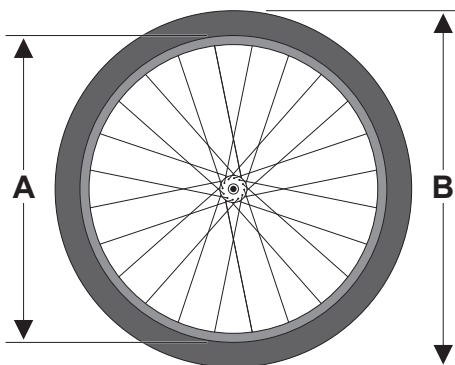
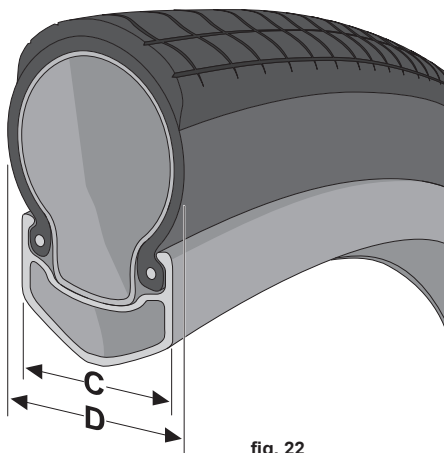

fig. 21
fig. 22
Wheel rims and tires come in a wide range of diameters (**fig. 21**) and widths (**fig. 22**). The nominal diameter of the rim (A) must match the nominal diameter of the tire (B), and the width of the rim (C) must be compatible with the width of the tire (D).